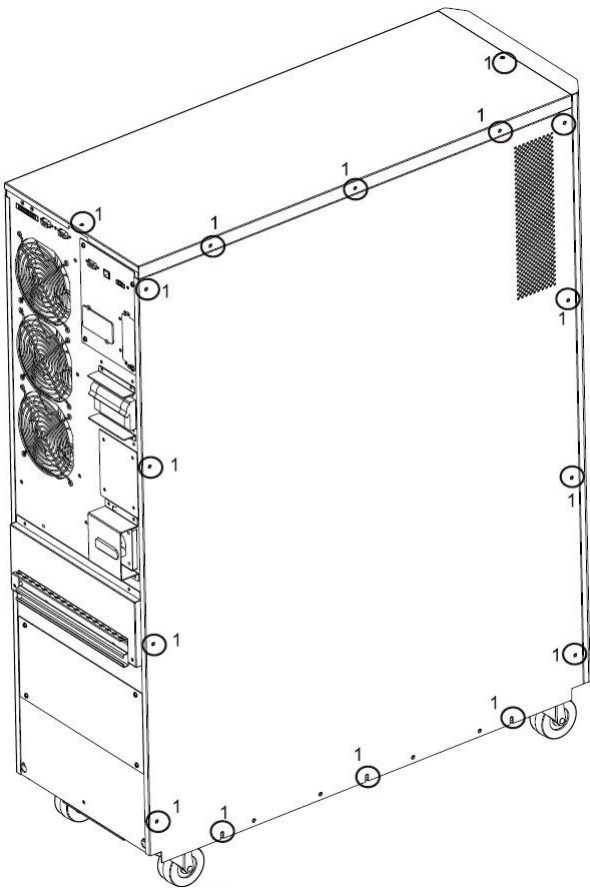

Figure 3.1
- 1) Remove all screws labeled 1 (Figure 3.1).